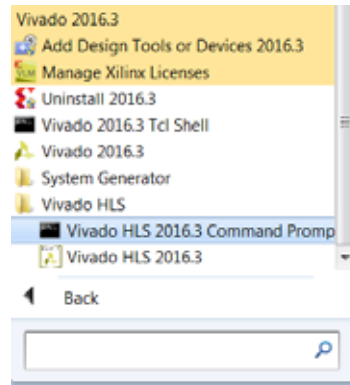

Figure 7-1: Vivado HLS Command Prompt
- On Windows use **Start > All Programs > Xilinx Design Tools > Vivado 2016.3 > Vivado HLS > Vivado HLS 2016.3 Command Prompt** (Figure 7-1).